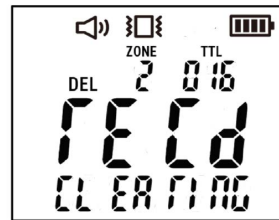

Figure 5
5. To clear the event log for any given zone, press and hold the MODE button for 2 seconds while in that zone. The display will read "rECd" "CLEARInG" (figure 5).